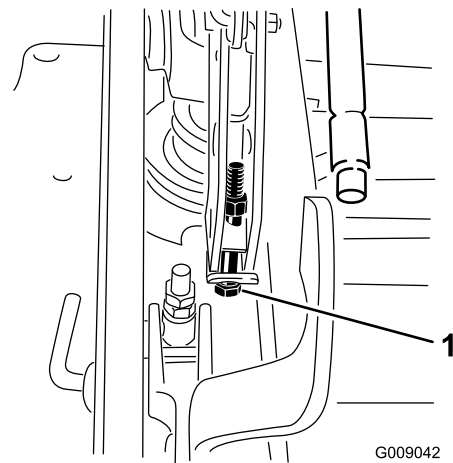

**Figure 94**
11. To adjust the single-point system, loosen the 2 bolts at the bottom of the height-of-cut plate (Figure 94).
13. Tighten the 2 bolts at the bottom of the height-of-cut plate (Figure 94).